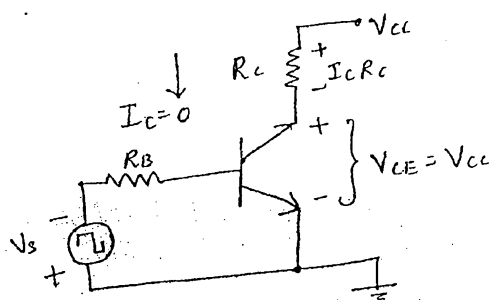

Fig: 1
- * In figure 1 the negative polarity of the base input voltage V_s biases the transistor off. The current flowing through transistor is only Collector base leakage current (I_{CBO}), as I_{CBO} is so small it can be neglected.